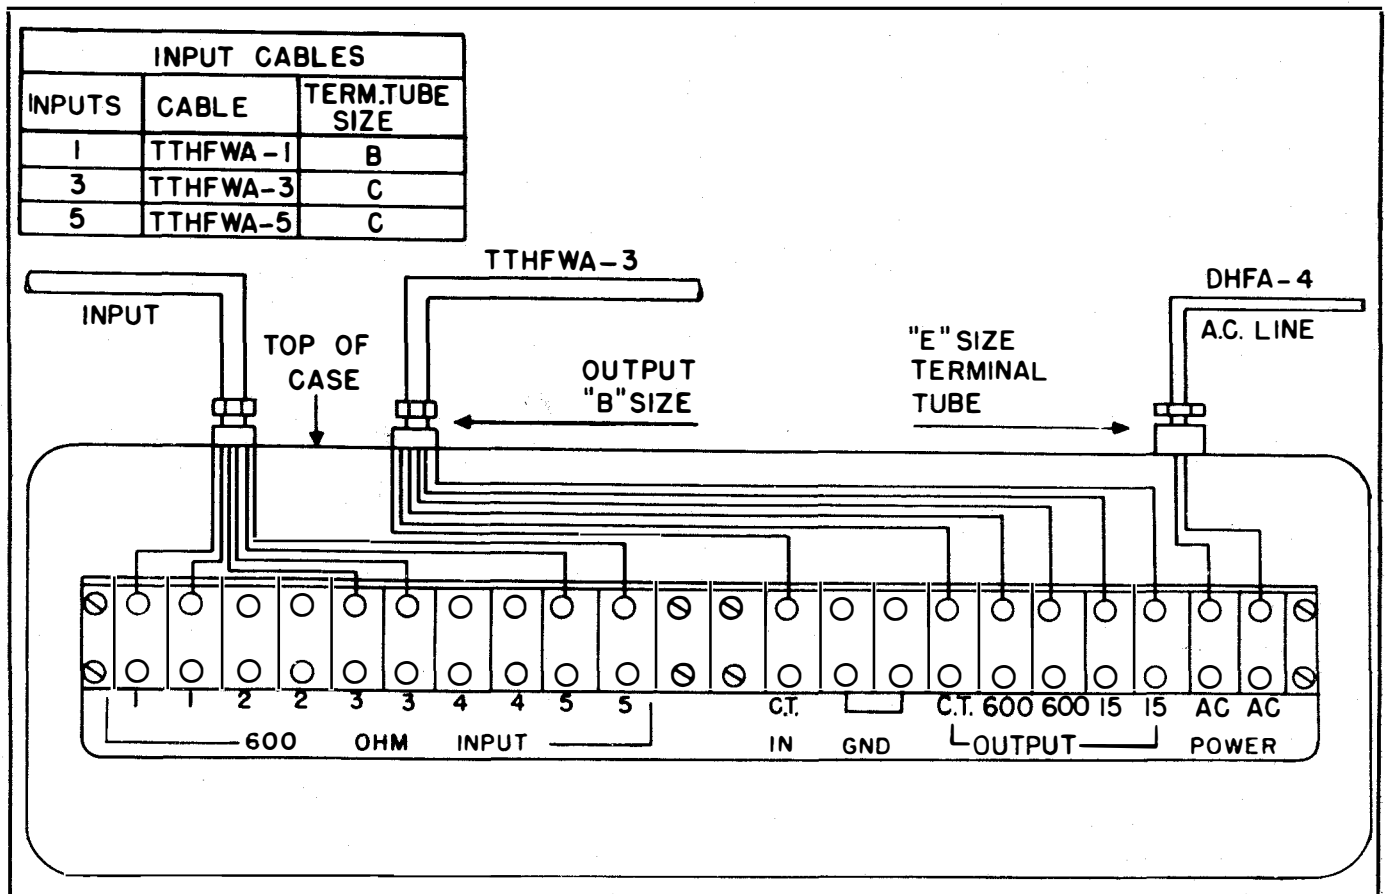

Figure 3-2. Typical Terminal Tubes and Cables for A.F. Amplifier AM-215B/U
a. Terminals are provided on a terminal board mounted on the interior of the cabinet for connecting five pairs of 600 ohm lines to the input of the amplifier. These are numbered 1 to 5 and respectively correspond to the numbering on the CHANNEL SELECTOR switch S101 (see figures 3-2 and 4-1).
b. All holes required for mounting bolts and terminal tubes are to be drilled in the cabinet by the installing activity to fit the needs of the particular installation. An example of a possible installation is shown in figure 3-2.